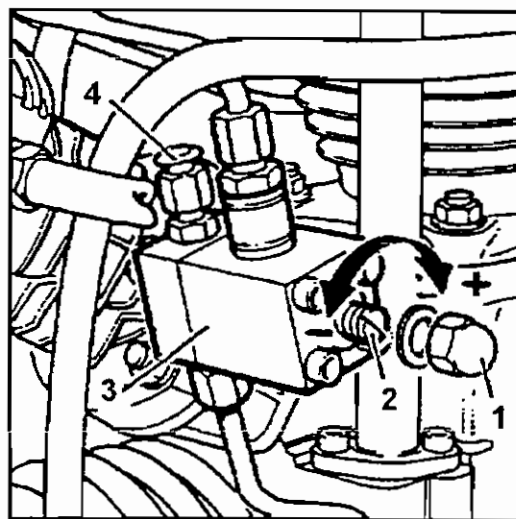

Fig. 4.6 Oil pressure regulator
The oil pressure regulator is mounted on the 3rd stage cylinder (see section 2 for oil pressure). The regulator valve can be adjusted by removing the cap nut (1) and turning the set screw (2) in the oil pressure regulator block (3) (see fig. 4.6). Adjustment should only be performed by a trained technician. The oil pressure regulator should be adjusted while the unit is in operation.